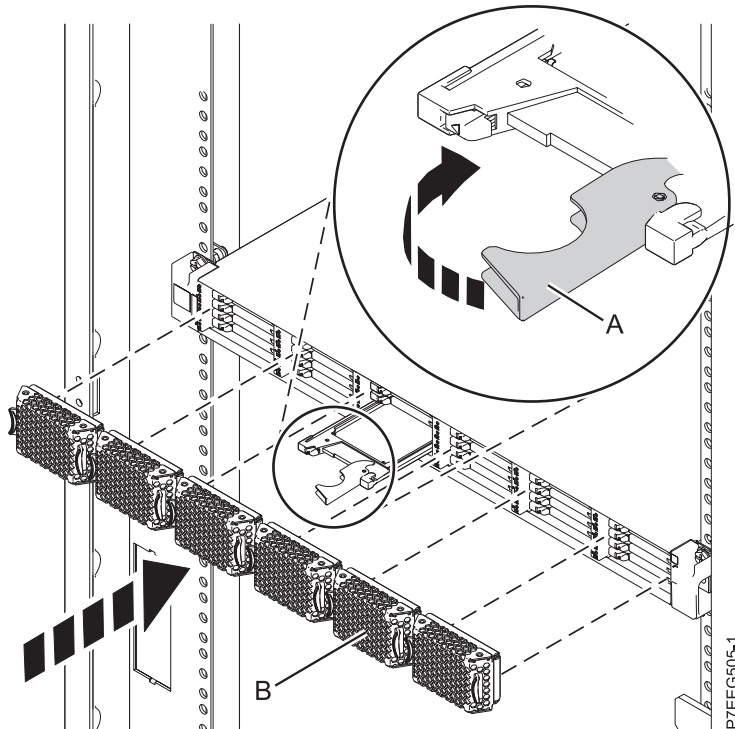

Figure 22. Replacing a solid-state drive in the 58/88 PCIe storage enclosure.
4. When the solid-state drive identify LED turns on solid, slide the solid-state drive all the way into the 58/88 PCIe storage enclosure until it is fully seated. Then rotate the handle (A) to the locked position. See Figure 22 on page 38.
6. Install the bezel (B).